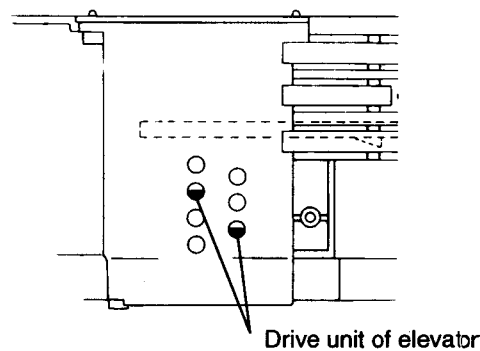
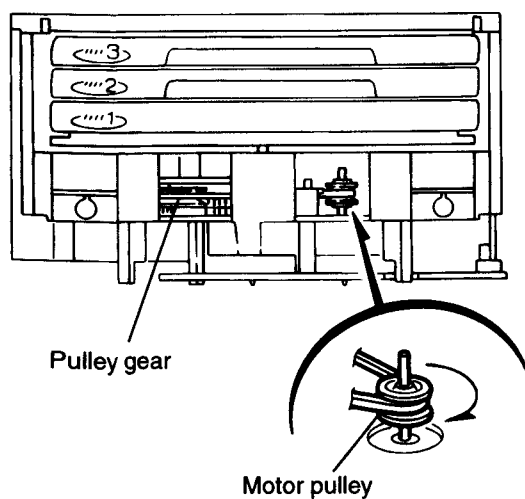

Fig.7
Fig.8
[Caution] In case the driver unit elevator is not at above position, set the elevator to the position as shown in Fig.7 by manually turning the pulley gear as shown in Fig.8.
13. Manually turn the motor pulley in the clockwise direction until the lifter unit stopper is lowered from the section "E" of CD tray assembly (See Fig.8).